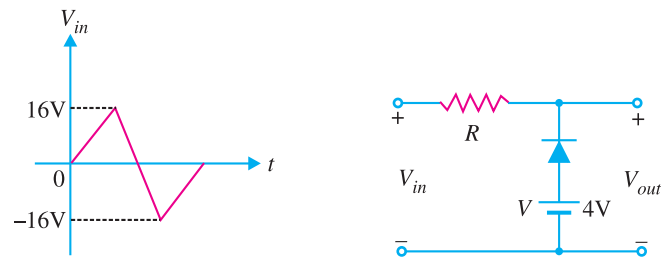

Fig. 18.71
6. Determine the output waveform for the clipper network shown in Fig. 18.71.